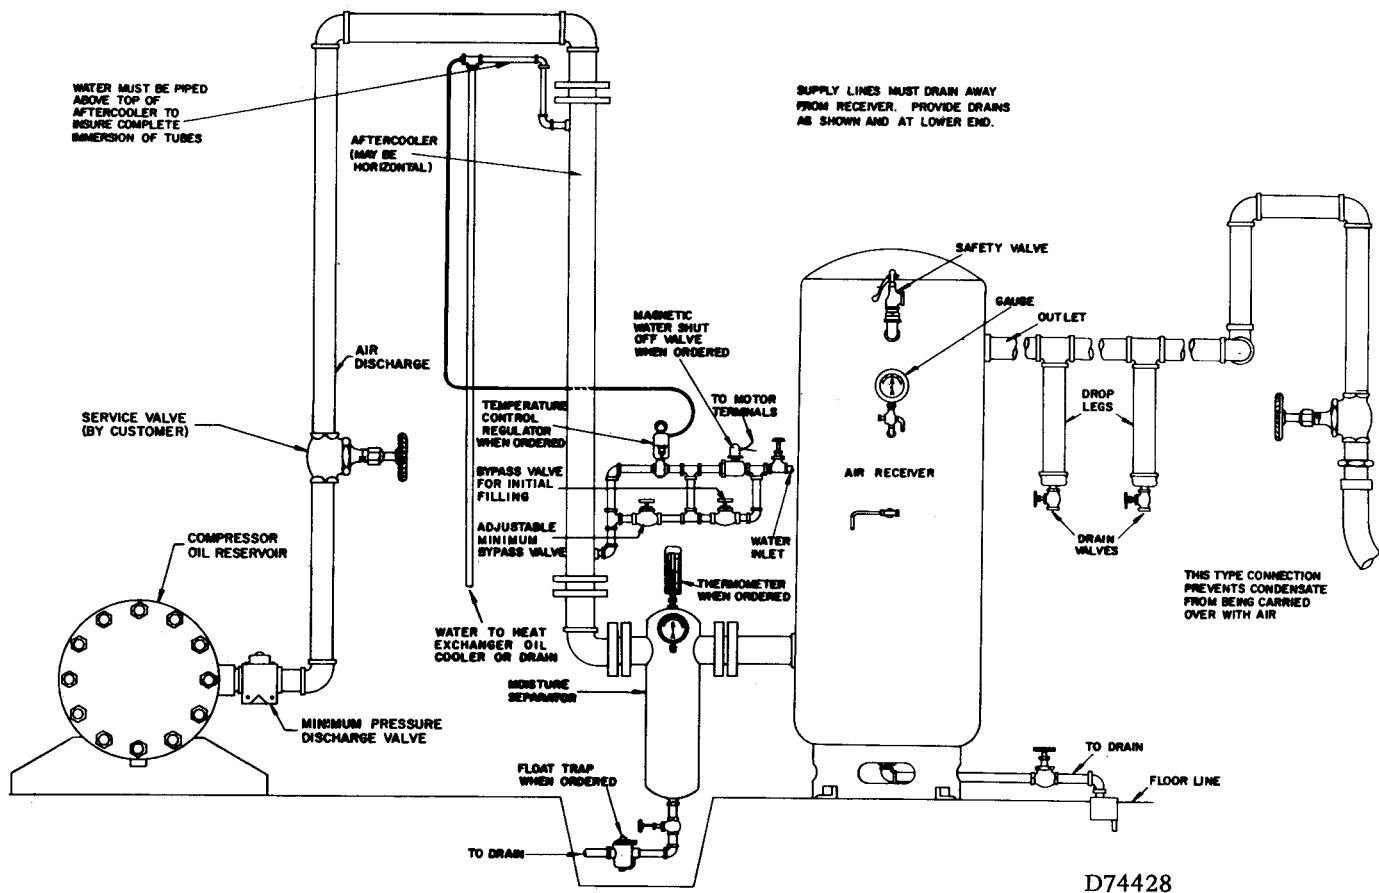

FIGURE 2-6. - AUXILIARY ACCESSORIES
**AUXILIARY AIR RECEIVER** — Constant speed control units do not normally use an auxiliary air receiver. Automatic start-stop, dual and duomatic units require an auxiliary air receiver unless the piping system is large and provides sufficient storage capacity to prevent rapid cycling. When used, an air receiver should be of adequate size, provided with a relief valve of proper setting and a means of draining condensate. Figure 2-6 shows a typical air receiver and auxiliary accessories. When two or more units are manifolded into the same line, a check valve is required between each unit and the manifold.
**AFTERCOOLER** (Figure 2-6) — An aftercooler will provide control of moisture entering the shop air lines while reducing the normal low discharge temperature of about 170° F. at 100 PSIG discharge to near inlet conditions.